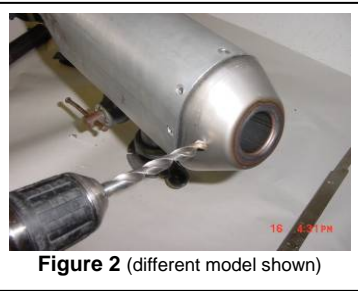

Figure 2 (different model shown)
5. Drill a hole through the side of the stock endcap to provide a place to grip or drive the endcap off (**Figure 2**). Because you will not be re-using the stock endcap, drilling or bending it will not effect the finished installation. Be careful not to bend the canister. Using the heat gun, heat the muffler canister where it is joined to the stock endcap. This will loosen the factory sealant.